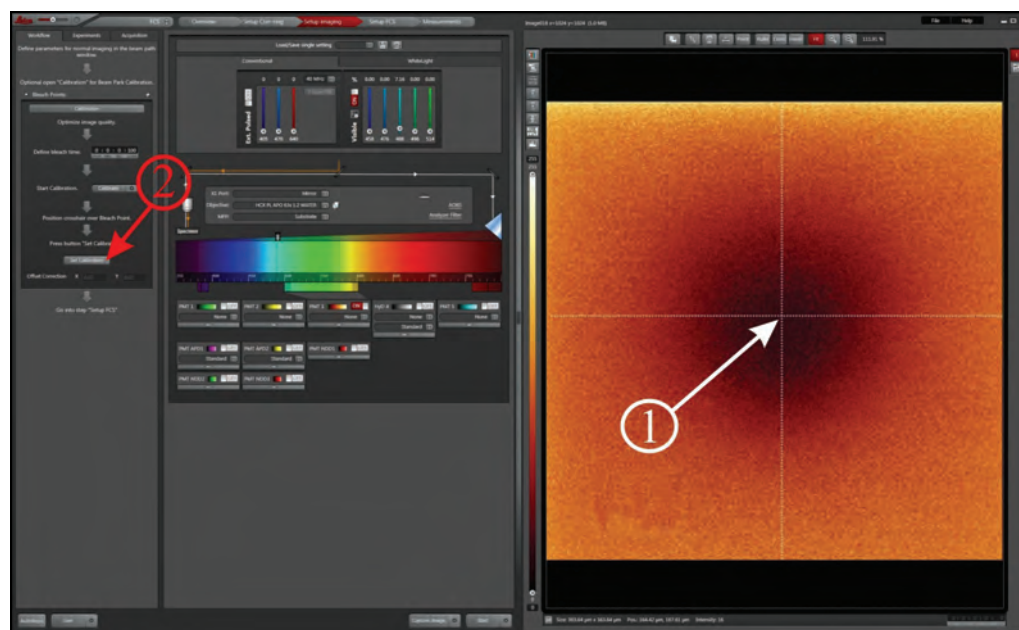

Figure 156: Procedure for calibrating the FCS measurement position – Definition of the bleach point
14. Now position the crosshair in the middle of the bleach point (**Figure 156, item 1**) and
select the **Set Calibration** button (Figure 156, item 2).